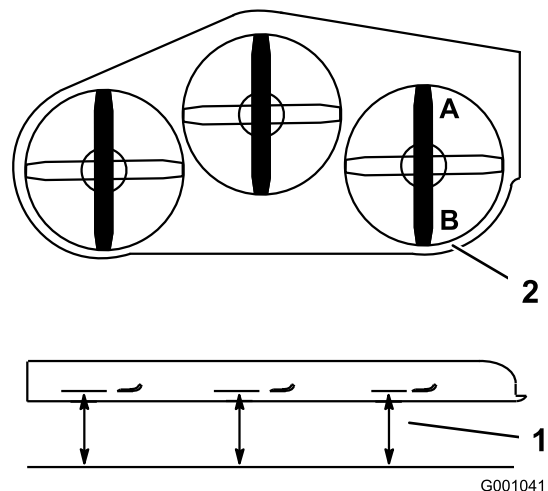

Figure 58
- Position one blade front-to-rear. Measure at **A** and **B** locations from a level surface to the cutting edge of the blade tips (Figure 58 or @@@5).
4. Position the blades front-to-rear. Measure at C and D locations (Figure 58) from a level surface to the cutting edge of the blades.